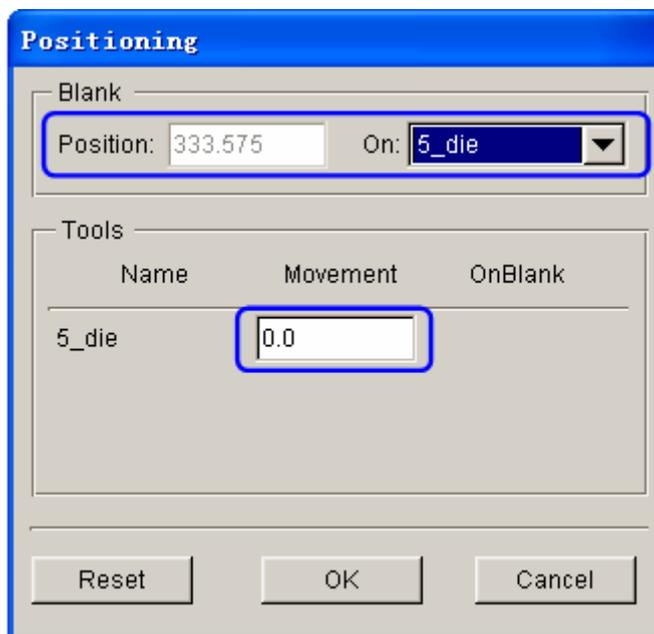

Figure 4.20 After tools auto positioning
- The movement of each tool is listed in the input data field of corresponding tool. The value is the measurement from the home/final position to the current position. The result is illustrated in Figure 4.20.